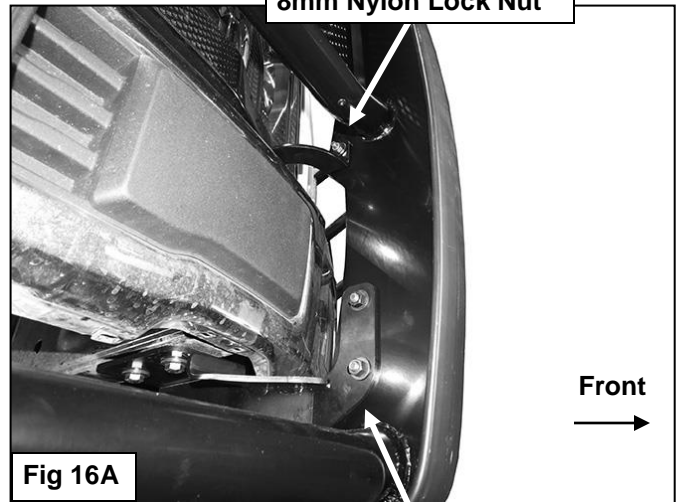

Fig 16A
6. With assistance, place the Grille Guard up to the outside of the Frame Brackets. Attach the Grille Guard to the Brackets with (4) 10mm x 30mm Hex Bolts, (3) 10mm Flat Washers and (4) 10mm Nylon Lock Nuts, **(Figure 16A & 16B)**. Snug but do not tighten hardware at this time.
8. Line up the driver side Top Bracket with the hole in the upright on the Grille Guard. Attach the Bracket to the Grille Guard with (1) 8mm x 30mm Hex Bolt, (2) 8mm Flat Washers, (1) 8mm Nylon Lock Nut, **(Figures 16A & 16B)**. Do not fully tighten hardware at this time.